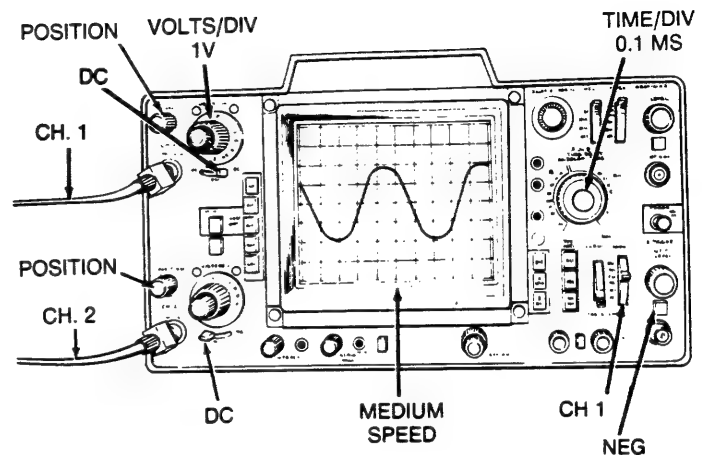

Figure 3-10.6C
5. Set the Oscilloscope controls as shown in Figure 3-10.6C.